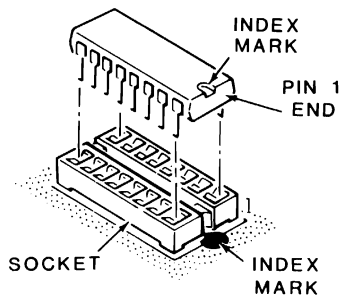

Figure A.6. Orientation and Alignment of an IC
- Make sure that the pin 1 end of the IC is positioned over the index mark on the circuit board (not the socket) as shown in Figure A.6.